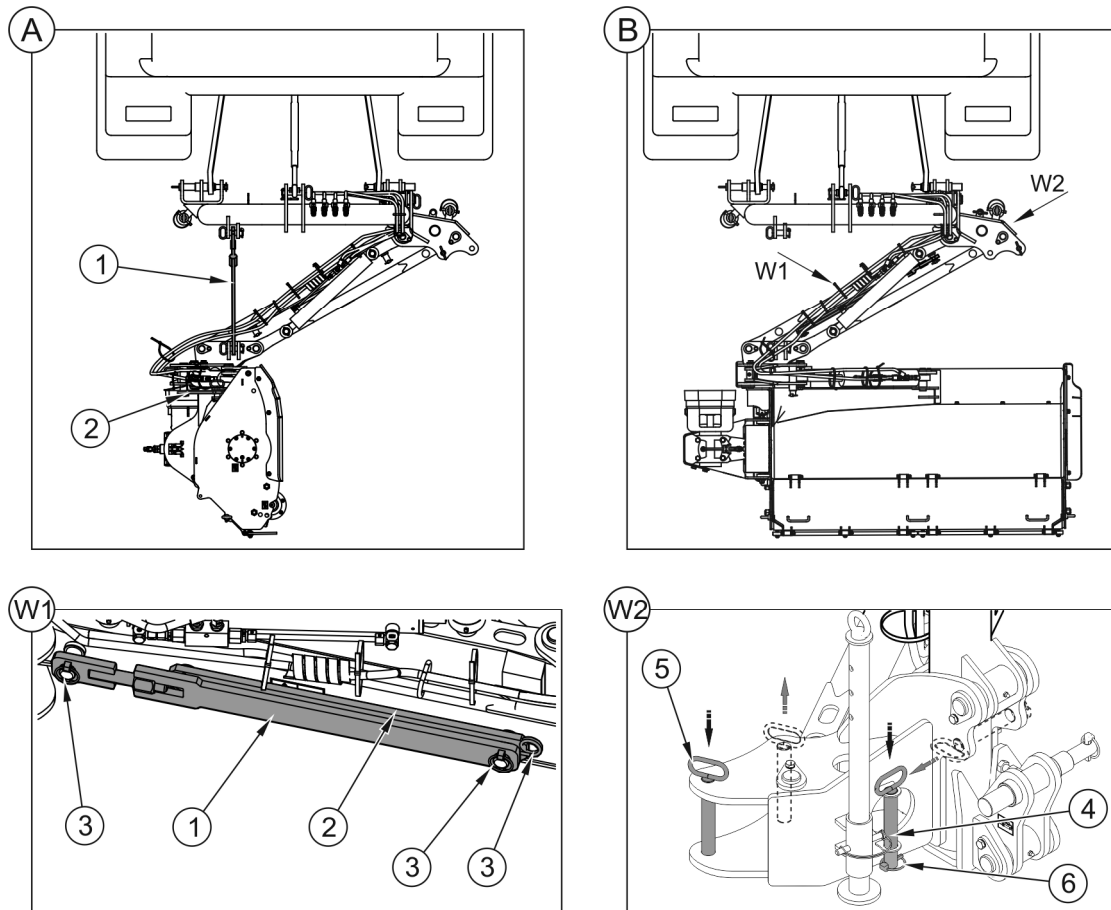

FIGURE 4.5 Setting mower in working position
- disconnect cylinder locks (1, 2), fix them as shown in figure 4.5 and secure with linchpins (3),
- change the position of transport pin (4) and lock pin (5) and secure with linchpins (6) as shown in figure 4.5,